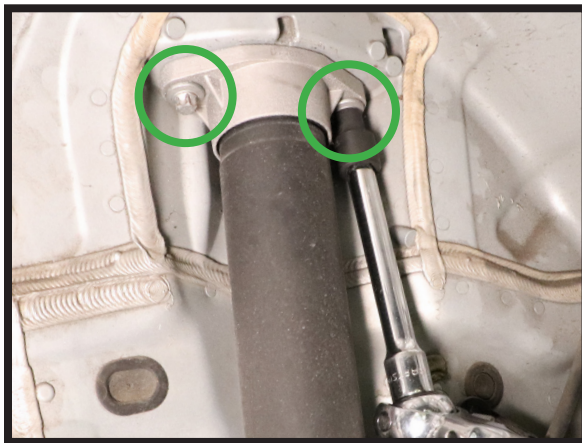

FIGURE 10
3. INSTALL THE TWO (2) TOP MOUNT BOLTS AND TIGHTEN TO MANUFACTURER'S SPECIFICATIONS (FIGURE 10)